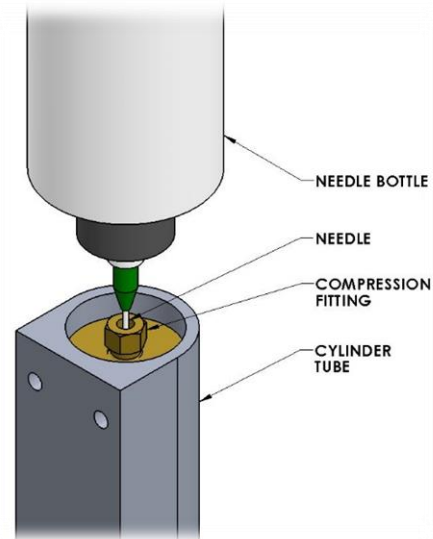

Figure 3: Cylinder Fill
10. Fully insert needle inside open cylinder tube fitting (Figure 3). Squeeze needle bottle to fill cylinder tube with Levitech hydraulic fluid until the fluid has reached the top of the fitting.